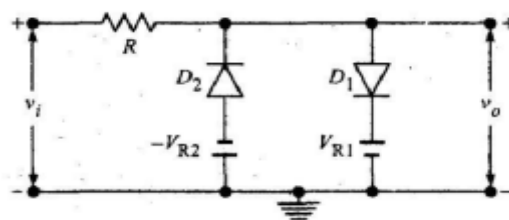

Figure 4.3 Series two level clipper
1. Design a series clipper at two independent level clipper as shown in figure with $R=1\text{K}\Omega$ as shown in figure 4.3.